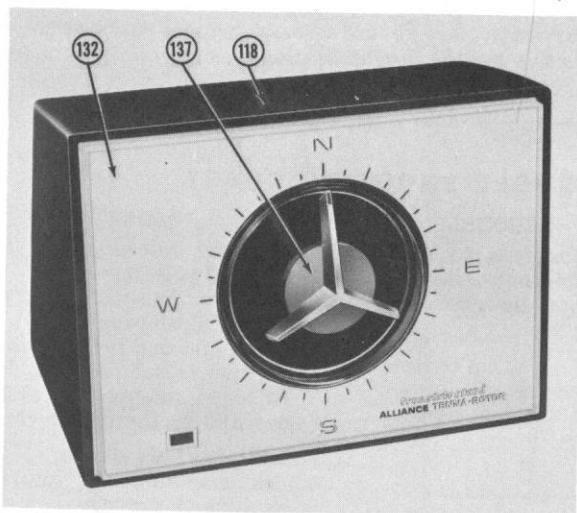

Fig. 74. Control Box—Model C-225A.
For location of parts in the control, see Figs. 74, 75, and 76.
2. Turn the control knob (Item #137, Fig. 74) to the extreme clockwise stop. The rotor must turn to the extreme clockwise stop and the light must turn off when the rotor reaches the stop.
For location of components of C-225A control, see Fig. 74, 75 and 76.